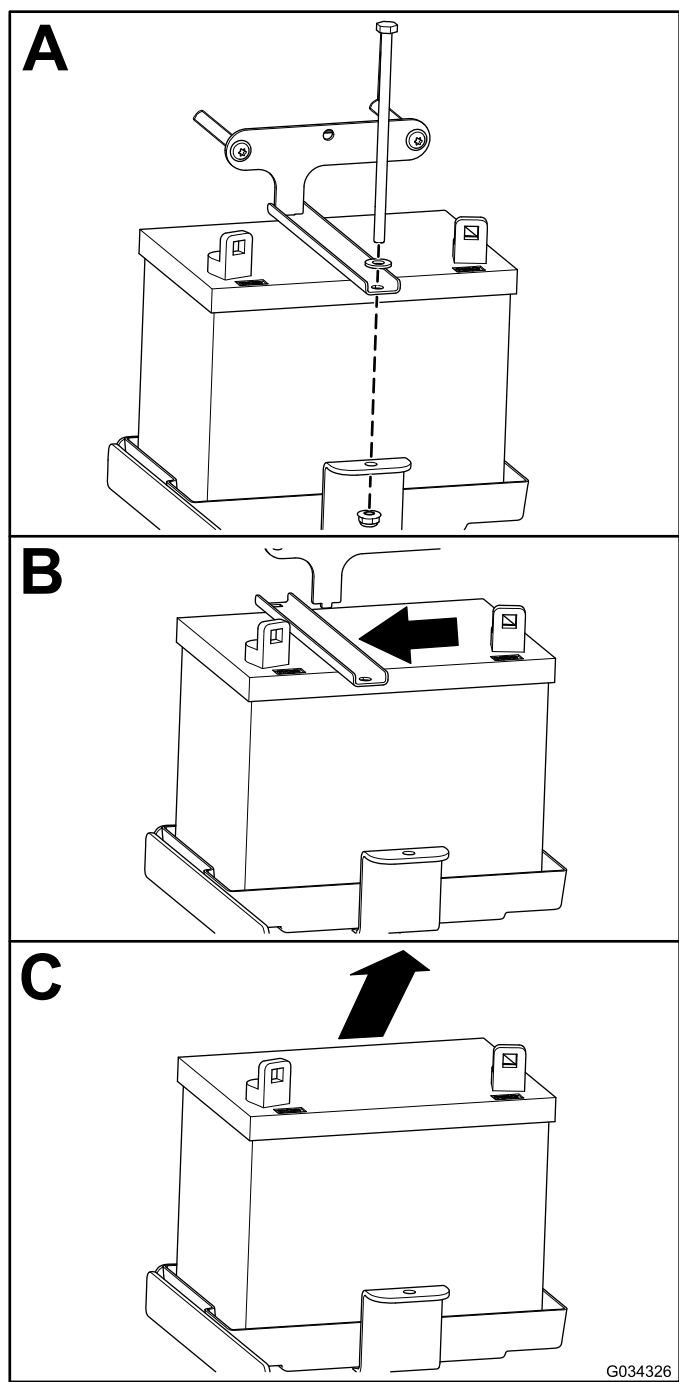

Figure 47
2. Remove the battery as shown in Figure 47.